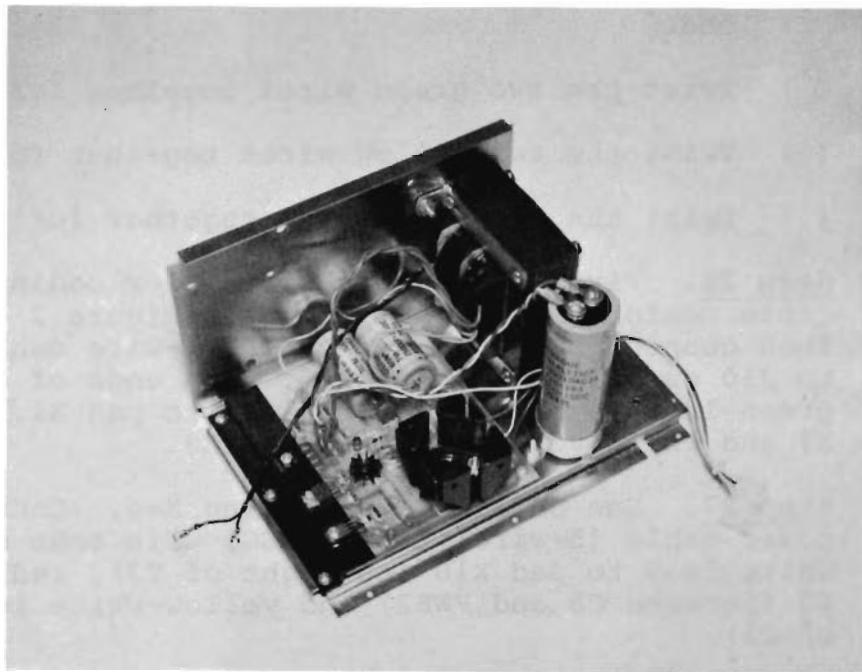

Figure 2-4. Partially assembled Sol-20 power supply subchassis assembly. (Rear of subchassis at left.)
- ( ) Step 32. Attach heat sink on Sol-REG to power supply subchassis as shown in drawing on Page X-3. At this point use only the two side screws which you used in Step 29 to prethread the holes. (The middle screw will be installed later.) Place a #6 lockwasher on each screw before driving it through the sink into the subchassis. Figure 2-4 shows a partially assembled Sol-20 power supply subchassis.
- ( ) Step 44. Route transformer T2 primary leads along side wall of power supply subchassis out toward the Sol-REG heat sink. (See Figure 2-4.) If you ordered your Sol for 110 V ac operation, T2 will have two black primary leads. If you ordered your Sol for 220 or 240 V ac operation, T2 will have one black, one black-red, one black-yellow and one black-white lead. Connect the primary leads of T2 as follows: